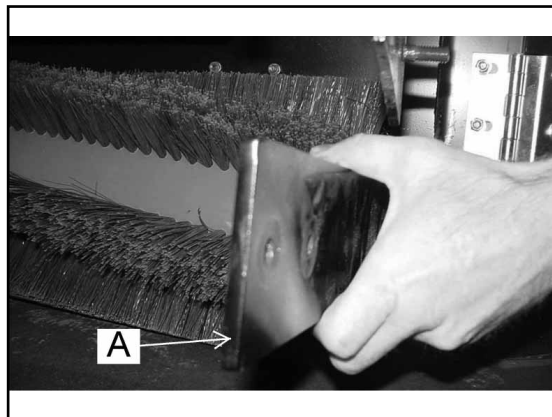

FIGURE 84
Remove broom lift arm (A) as shown in figure 84 and 85. Remove the main broom from the from the broom idler (B) exposing the main broom compartment as shown in figure 86. Check and clean out the main broom compartment before installing the new main broom. Slide the main broom onto the broom idler as shown in figure 87. Replace the broom lift arm and rotate the broom lift arm knobs (C) clockwise to tighten into place as shown in figure 88. Adjust the main broom to 1-1/2" to 2" sweep pattern.